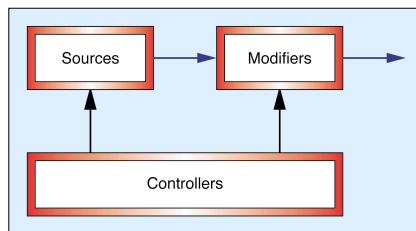

Figure 3: Thinking about the synthesizer in a different way.
- major classes that I call Sources, Modifiers, and Controllers (see Figure 3, above).